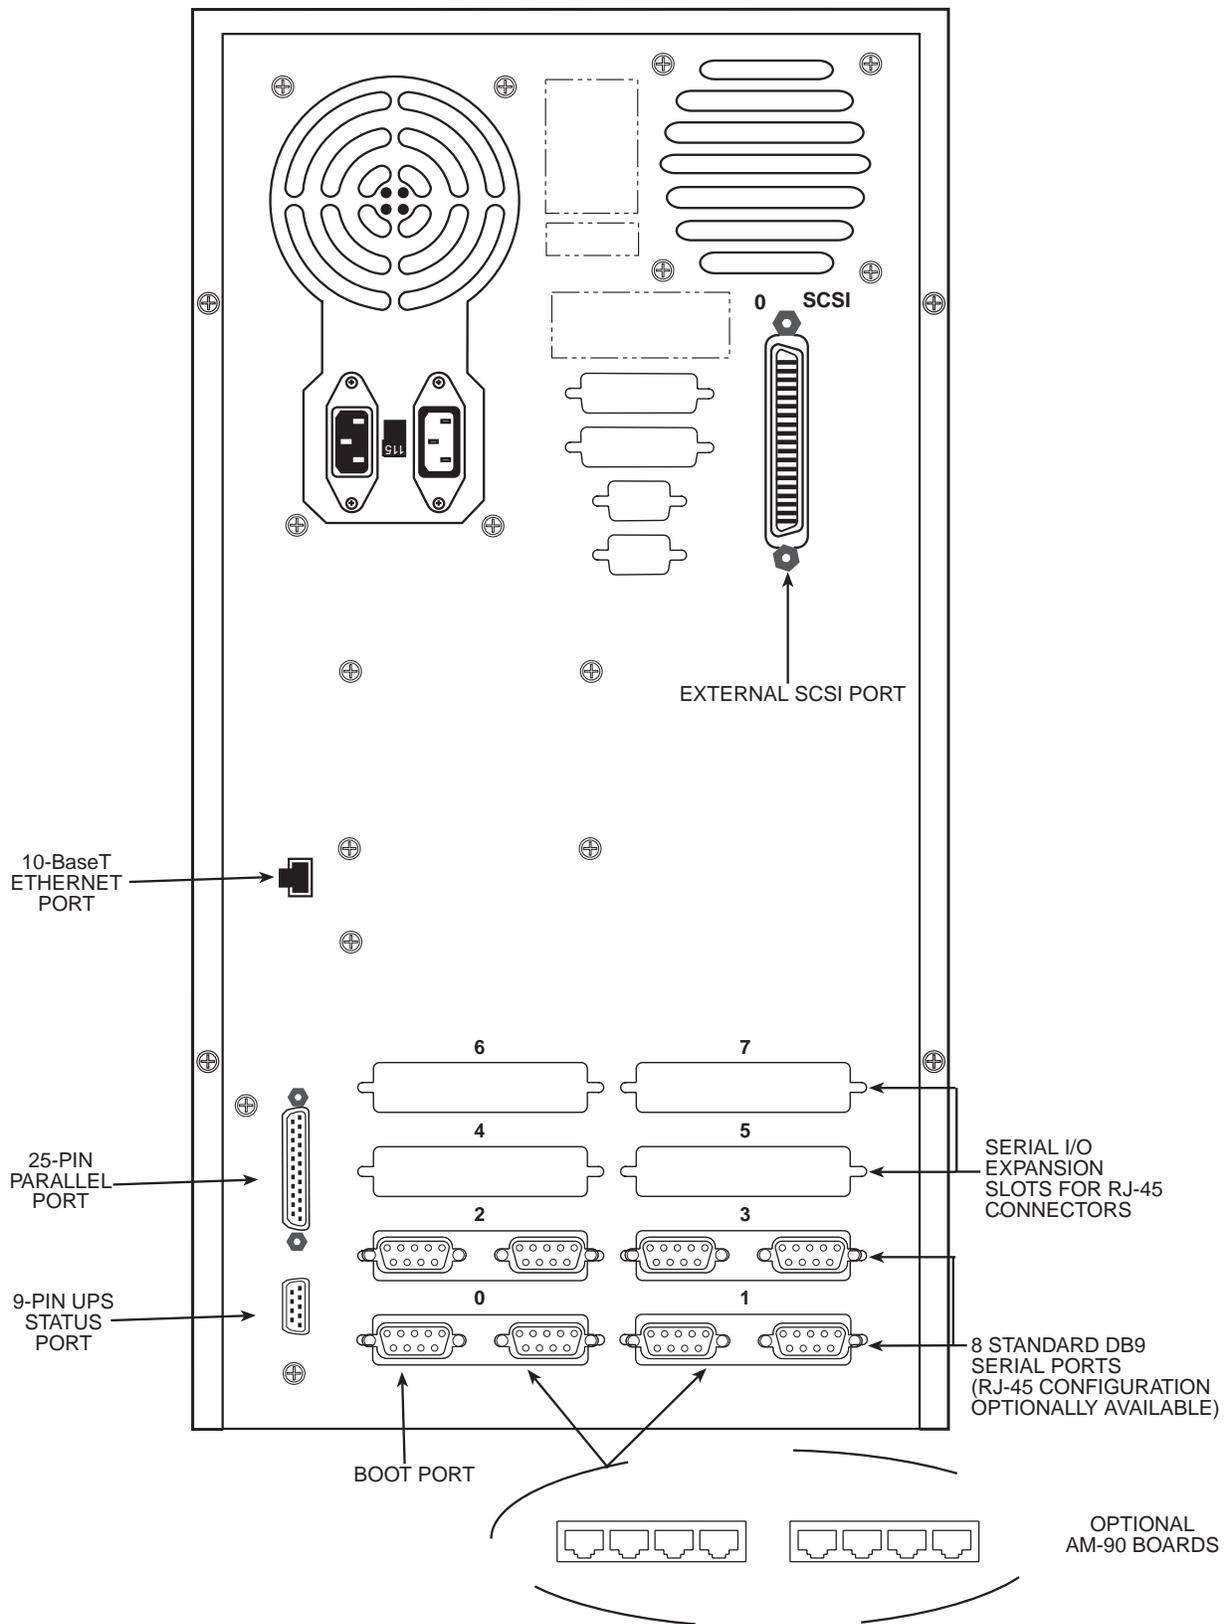

Figure 6-5: Eagle 250 Rear Panel (New Style Chassis)
6. Install the new rear panel to the chassis using the same six screws and nuts you just removed in steps 3 and 4. Make sure the rear panel is oriented so that the power supply mounts toward the top of the chassis when it is reoriented to its normal operating position. Figure 6-5 shows the correct orientation for the new style chassis.
8. Reinstall the rear panel connectors, removed in step 3, to the new rear panel. Figure 6-5 shows the position of the standard I/O connectors.
7. Install the new rear panel to the chassis using the same six screws and nuts you just removed in steps 3 and 4. Make sure the rear panel is oriented so that the power supply mounts toward the top of the chassis when it is reoriented to its normal operating position. Figure 6-5 shows the correct orientation for the new style chassis.
10. Reinstall the rear panel connectors, removed in step 3, to the new rear panel. Figure 6-5 shows the position of the standard I/O connectors.